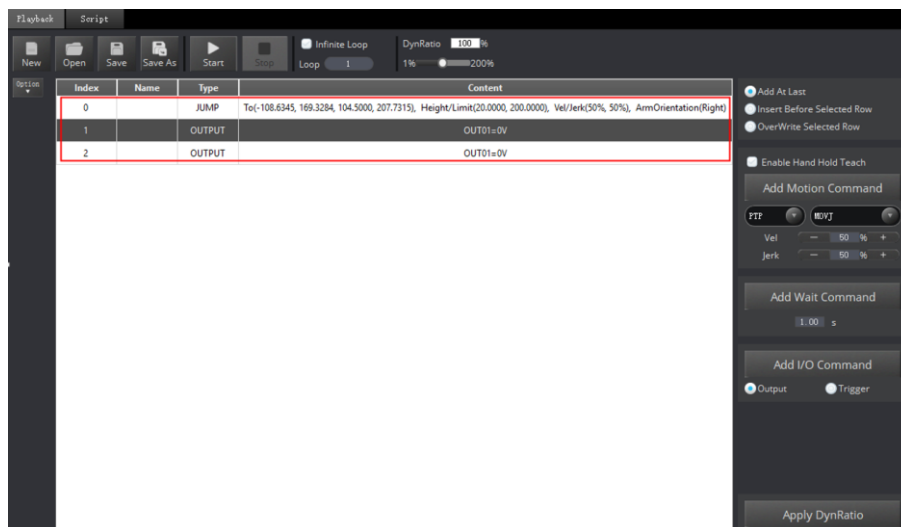

Figure 6.10 The saved point information
- Select a saved point and double-click the parameters on the line to modify the relevant information. The saved point information is shown as Figure 6.10.